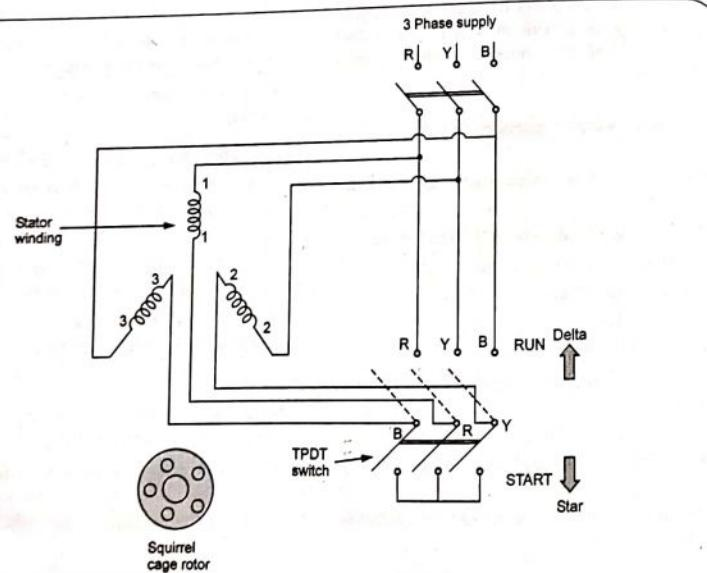

Fig. 10.10.1 Star-delta starter
- The arrangement is shown in the Fig. 10.10.1.